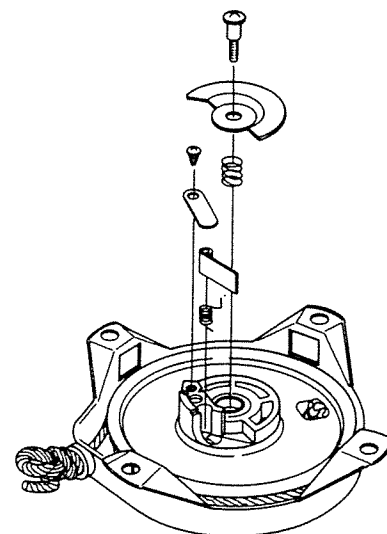

Figure 13. Installing Dog Assembly, Type B Starter.
1. Assemble dog assembly as follows. Figure 13.